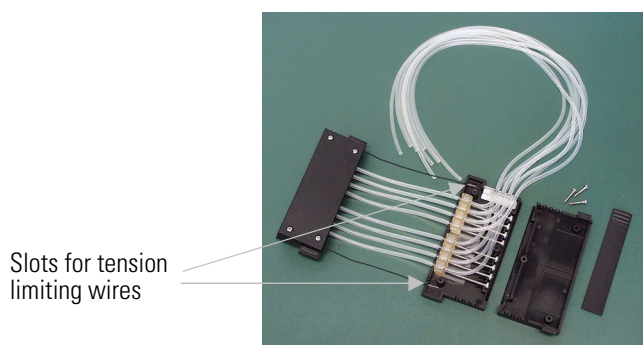

Figure 5-39. Calibration screws fastened
11. Insert the tension limiting wires into their slots into the upper part of the dispensing cassette (Figure 5-39).